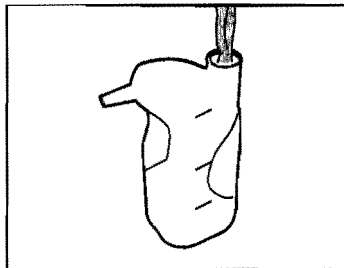

Fig. 1
- fill the bottle with demineralised or tap water Fig 1;